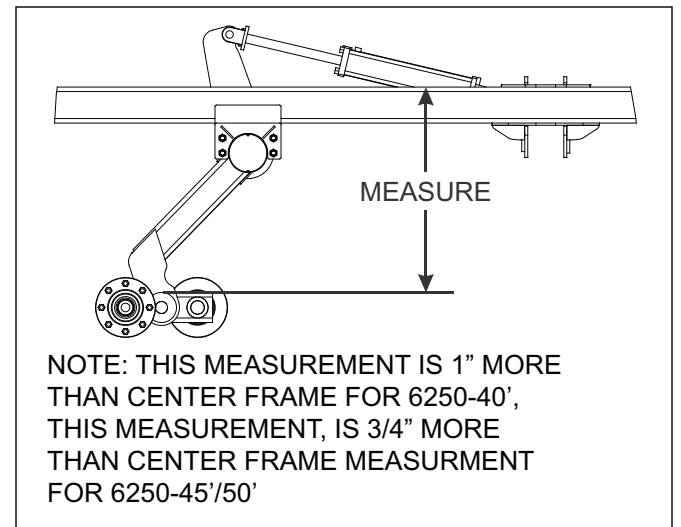

Figure 4-11: Leveling Wing from Side to Side
- e. On the wing frame, measure the distance from the welded tube in walker to the top side of the wing frame (See Figure 4-11.)